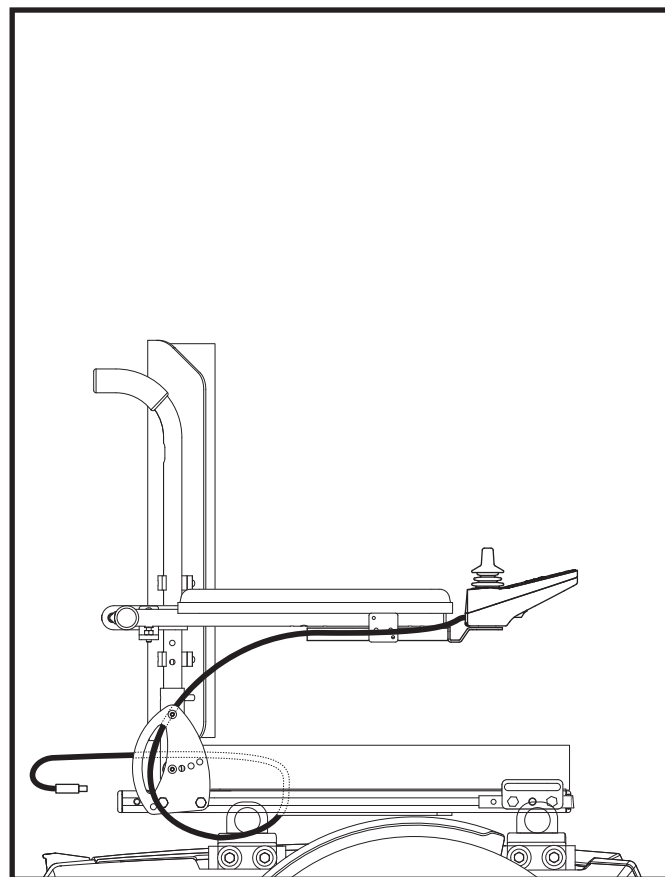

Figure 8. Controller Harness Routing on a Synergy Seat
4. Install the controller and route the harness to the back of the power base. **See figure 8, 9 or 10.**